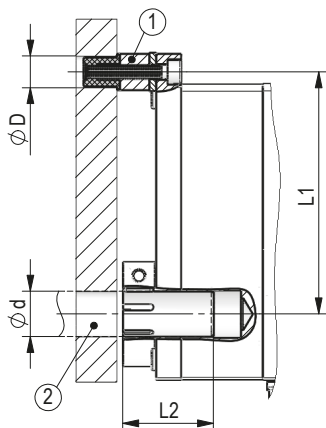
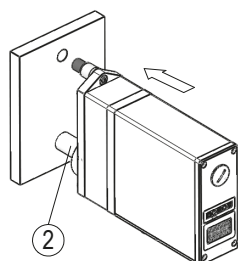
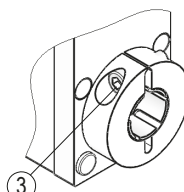
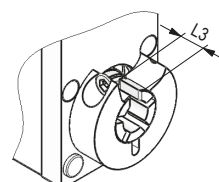

Fig. 1: Mounting dimensions
Fig. 2: Mounting
Fig. 3: Fastening torque for screws
Fig. 4: Shaft for feather key
- ▶ Ensure a low shaft and angle offset between shaft and accommodation bore by applying appropriate manufacturing methods (see Fig. 1 + Tab. 1).
**Preparing mounting (Fig. 1, Fig. 2, Fig. 3, Fig. 4):**
1. Make bore ( $\varnothing D$ ) with distance (L1) to the driving shaft ②.
2. Observe length (L2, L3) and diameter ( $\varnothing d$ ) of customer shaft ②.
3. Untighten the M6 screw in the torque support ① and M6 screw in the clamping ring ③.
**Mounting (Fig. 1, Fig. 2, Fig. 3, Fig. 4):**
1. Slide the actuator on the customer shaft ② until the torque support has reached the stopper ①. You may slightly adjust the torque support to the installation conditions via a long hole).
2. Tighten the clamp ring screw ③ by applying 8 Nm.
3. Tighten the screw for the torque support ① by applying  $\leq 2$  Nm.